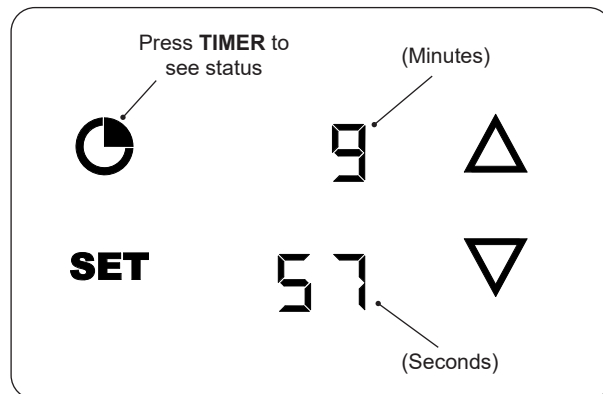

Fig. 37-2 Check timer status
- To check the timer status, press the **TIMER** button and the display will show the live countdown (for 5 seconds then, return to the default screen). See Fig. 37-2.
- The upper display indicates minutes and the lower display indicates seconds (see Fig. 37-2).